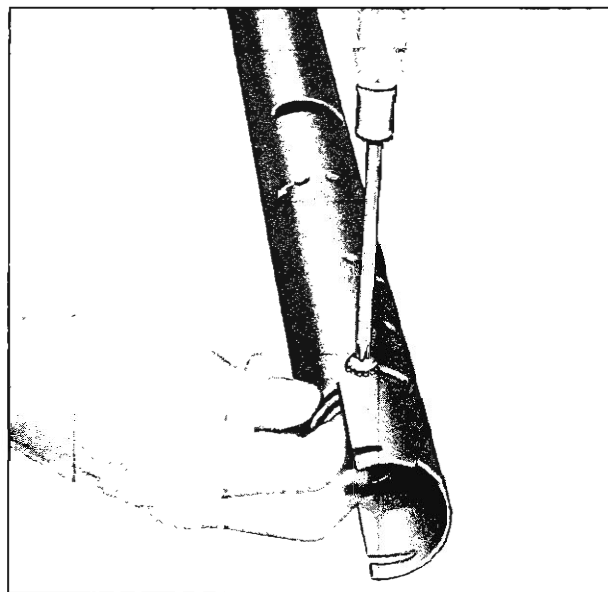

Fig. 24—Removing Upper Adjusting Ring
- Remove upper adjusting ring (fig. 24).